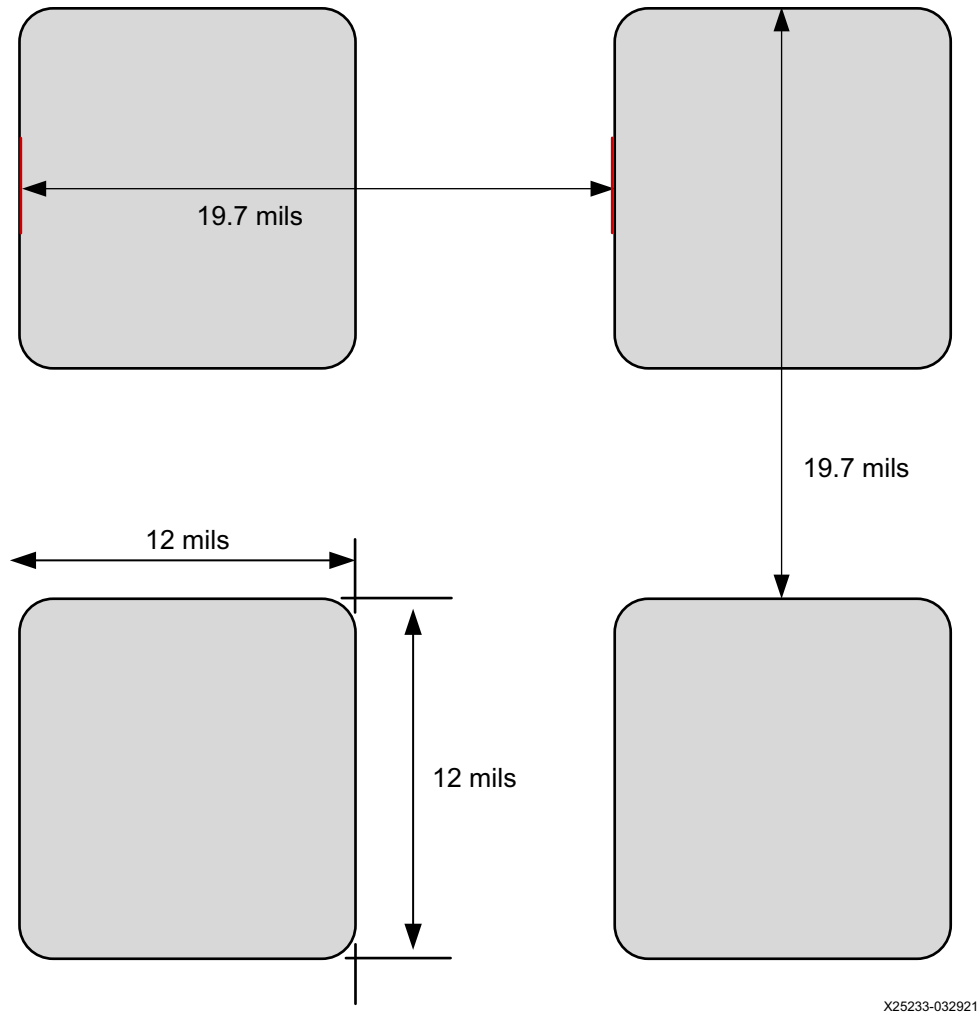

Figure 9-3: Recommended Stencil Design for InFO Packages
- For InFO packages with 0.5 mm ball pitch, a uniform stencil with squared aperture openings (rounded corners) of 12 mils and pitch of 19.8 mils, as show in Figure 9-3 is recommended. A stencil thickness of 4 mils is also recommended.